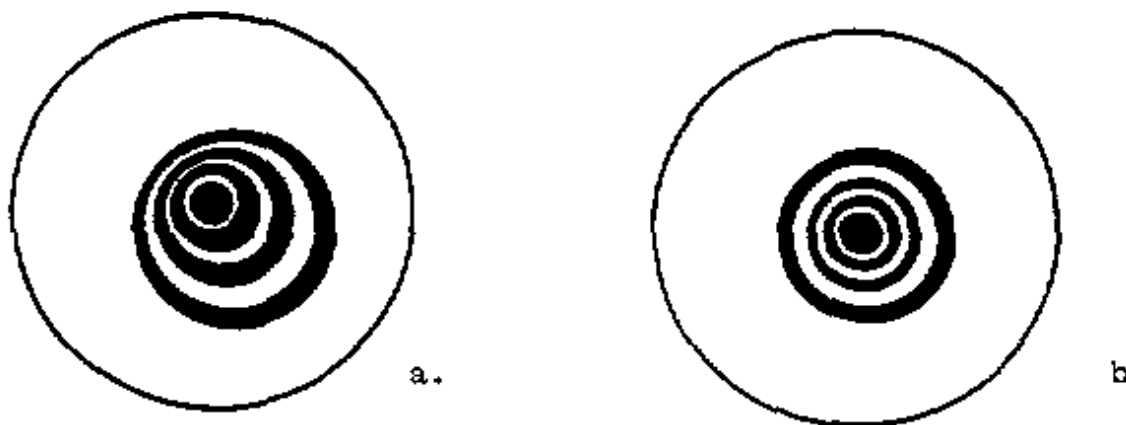

FIG. 4: Out-of-Focus Star Image
Step 4: After Steps 1-3 have been followed, your DS-10 telescope will be well-collimated. Final "fine-tuning" of the collimation must be performed while observing a star through the telescope, with an eyepiece in place. Center a fairly bright star in the telescope's field of view. Then defocus the star image. It will then appear as in Fig. 4, with several rings surrounding the central star. If Step 3 was performed accurately, these rings will be round and concentric; if not, adjust the wing nuts of the primary mirror cell until the rings are well-centered, as in Fig. 4b. (In any case, it is not necessary to re-do Steps 1 and 2.) With this centering accomplished, collimation is completed.